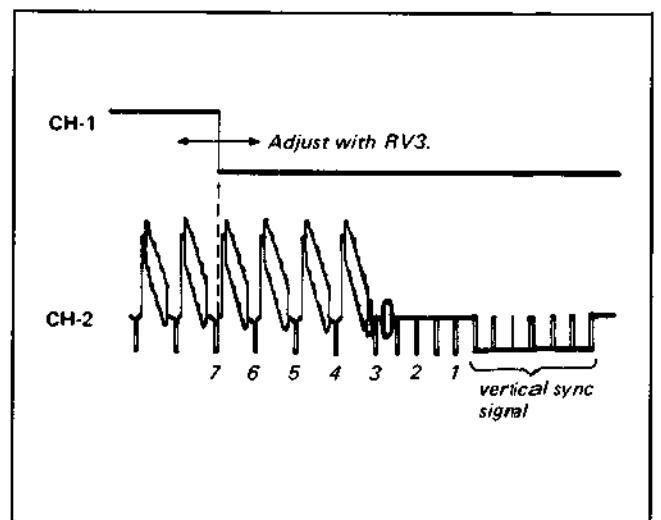

Fig. 4-3-6. Record-servo lock phase adjustment
- (3) Adjust RV3 on the AS-6 board so that the phases of the falling section of the CH-1 waveform and the vertical sync signal of the CH-2 video signal are  $7 H \pm 2 H$ . (See Fig. 4-3-6.)